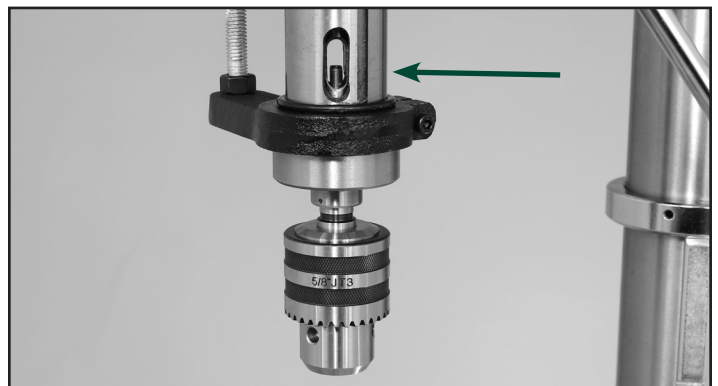

FIG. 10
2. Next, take the chuck and insert the long, MT2 tapered end of the arbor into the drill press spindle's tapered hole. Make sure to align the flat part of the arbor with the slot in the spindle. FIG. 10.